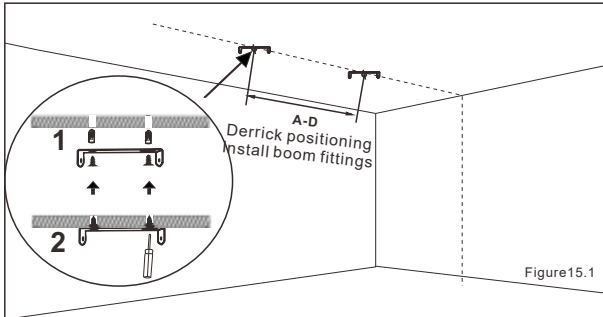

Figure15.1
2. In the track installation area, use tool marks to set the installation position in a straight line and install the derrick accessories; (See Figure 15.1)